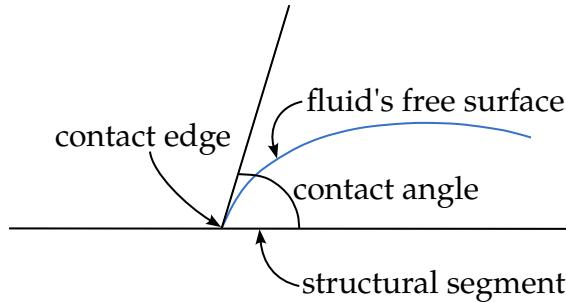

Figure 31-1. Example of contact between a structure and ISPG element. In the 3D the contact edge is the line going into the plane. In 2D, it is the point.
| SCL_CE | Scale factor for the element size at the regions near the contact edges (see Figure 31-1). The element size near the contact edges is $SCL_CE \times D_{avg}$ for the refinement. Here, D_{avg} is the original average element edge length for the ISPG elements. The default value of SCL_CE is 1.0. If SCL_CE is smaller than 0.333, then it is reset to |
2. **Staggering algorithm.** Usually, the ISPG contact edges (see Figure 31-1) move by internal forces (e.g., pressure and viscosity forces) and external forces (e.g., surface tension forces and wall adhesion forces). But at some sharp corners of the structure, it is difficult to determine the normal vector of the contact needed for calculating the wall adhesion and normal contact forces. The strong discontinuity in the structural segments causes this issue. We implemented a staggering algorithm to handle this scenario. In these regions, the ISPG edge staggers forward or backward depending on the contact angle (see *DEFINE_ISPG_TO_